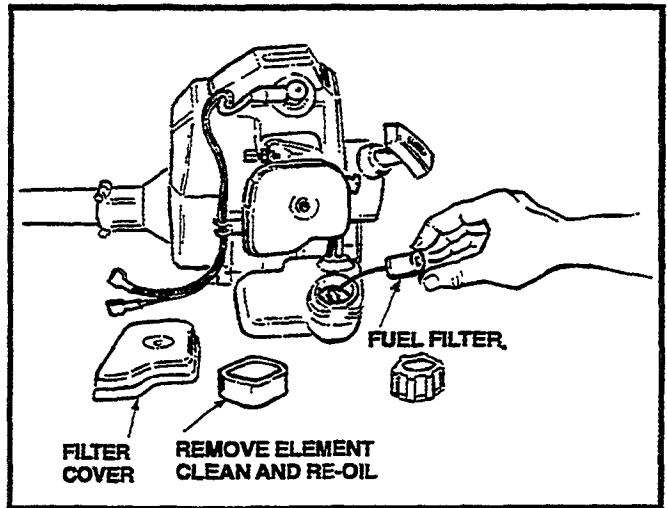

Figure 13
- Clean and service air filter (after cleaning, put small amount of engine oil on sponge and squeeze out excess) (Figure 13).
- Check fuel filter in tank and clean if needed. (Figure 13).